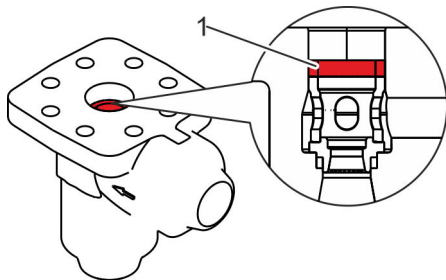

Fig. 32: Inserting the cover gasket
- 29. ▶ Insert the new cover gasket (Fig. 32/1) into the body.